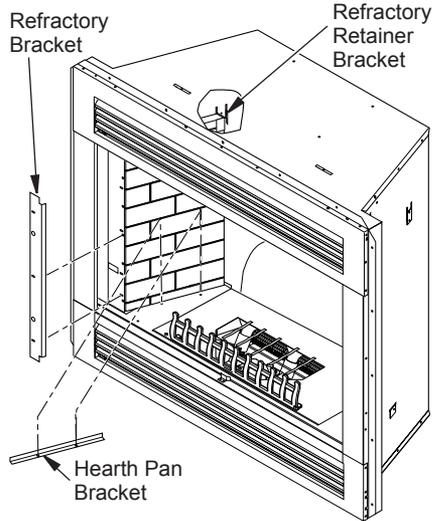

Figure 17 - Installing Brick Panels and Brackets
5. Insert brick panel, beveled edge first, through firebox opening. Tilt and angle top edge into brick retainer until beveled edge contacts imager and panel is flat against firebox (see Figure 17).